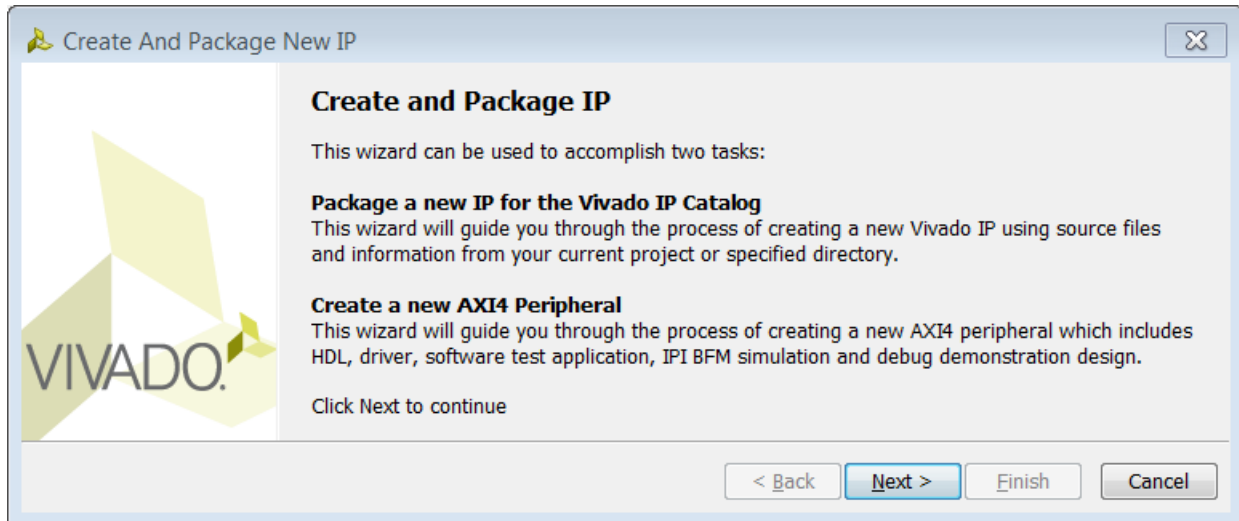

Figure 146: IP Packager Dialog Box
2. In the Welcome to the Create and Package IP page, click **Next** to continue (FIGURE 146).